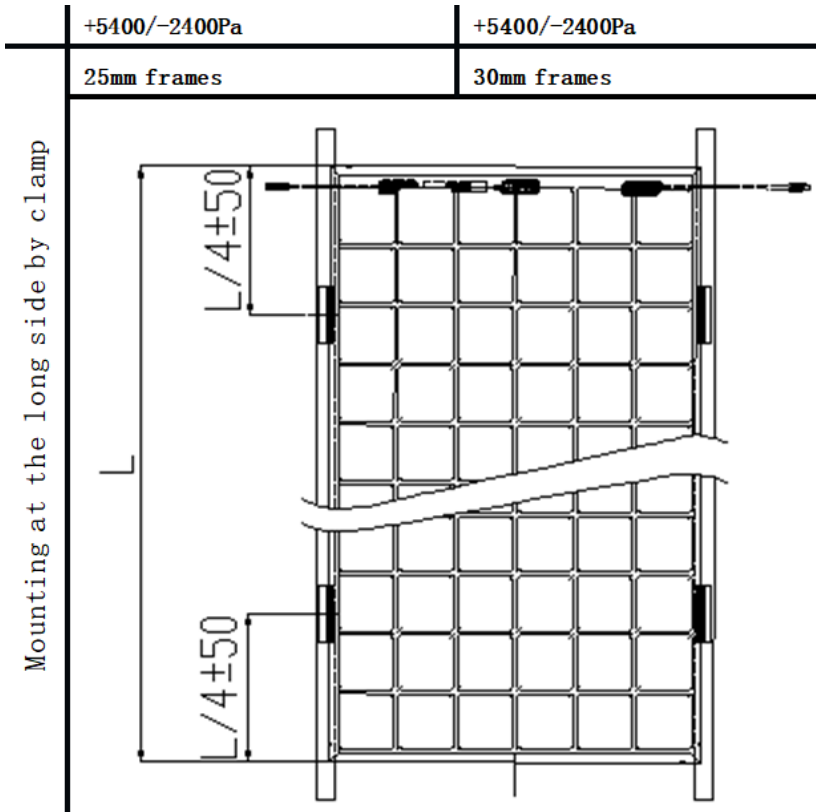

Figure 8 Installation Position and Corresponding Load Relationship
- D) This instruction is just used for the 25mm and 30mm height frame bifacial mono glass-glass modules, refer to Figure 8, Figure 9 and Figure 10.